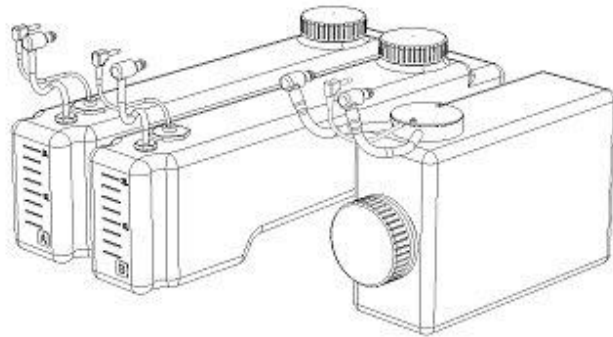

Figure 177: Replacing Wash Buffer and Liquid Waste Tubing
15. Remove and replace the tubing on the two wash buffer containers and on the liquid waste container (Figure 177).